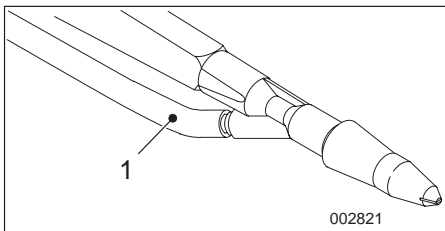

Fig. 1
1. Detach powder hose (1, Fig. 1) from gun and powder pump.